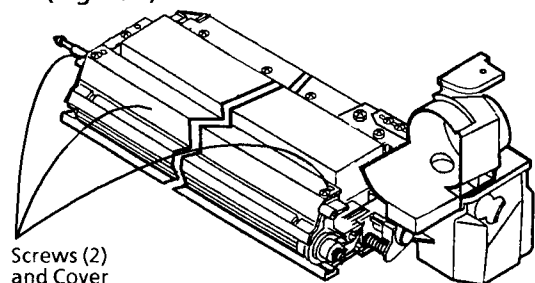

Figure 1. Removing the Screws and the Cover
2. Remove the screws (2) and the cover (Figure 1).